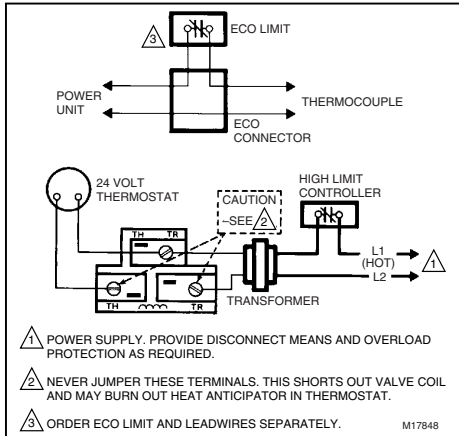

Fig. 6—Typical V800 wiring diagram.
3. Connect control circuit to operator terminals. Refer to Fig. 6 for a typical wiring diagram.